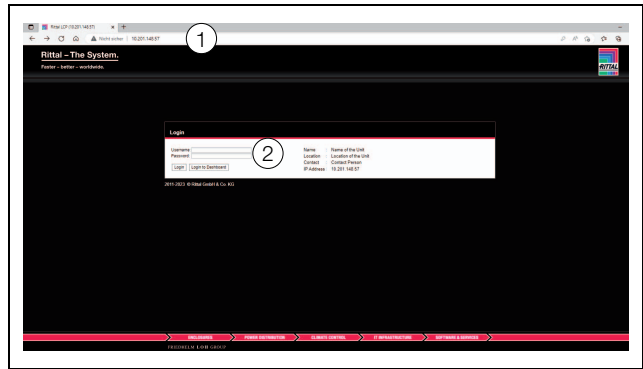

Fig. 96: Log-on screen with an HTTP connection
- In the browser, enter the address **http://192.168.0.190** (fig. 96, item 1). The log-on dialogue for registering the device will appear.
- Log in with the username **admin** and the password **admin** (fig. 96, item 2).